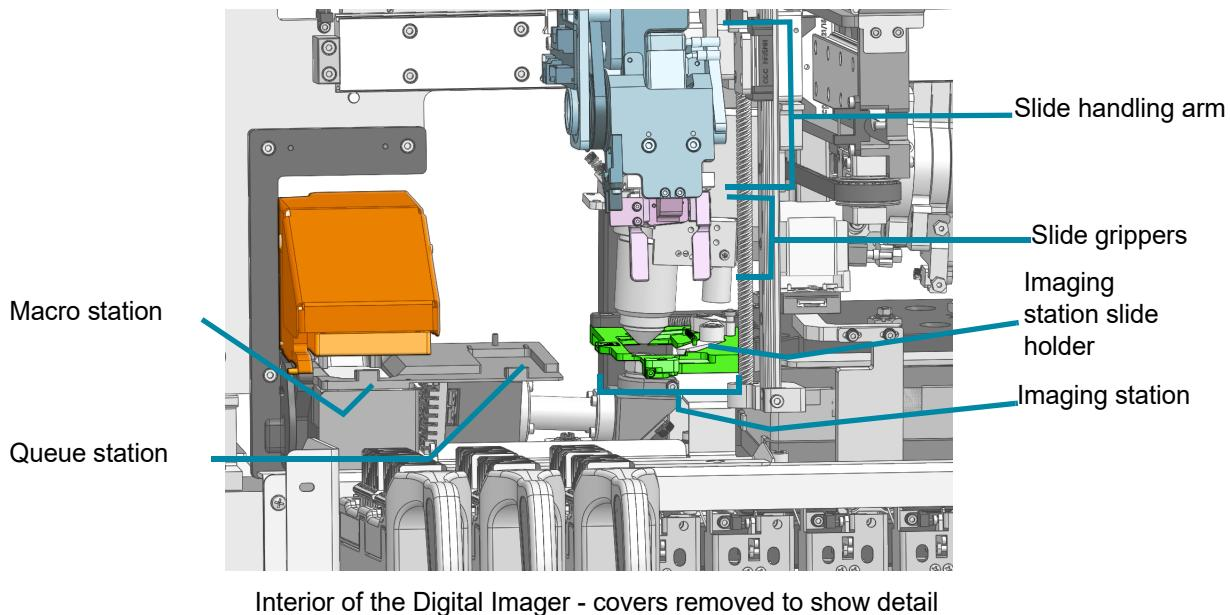

Figure 1-5-5 Macro station, queue station, imaging station and slide gripper
2. Move the slide handling arm so that the macro station is easy to reach. Do not press on the macro station. Gently, wipe any glass dust and debris from the macro station with a lint-free wipe, dampened with deionized water. Refer to Figure 1-5-5.